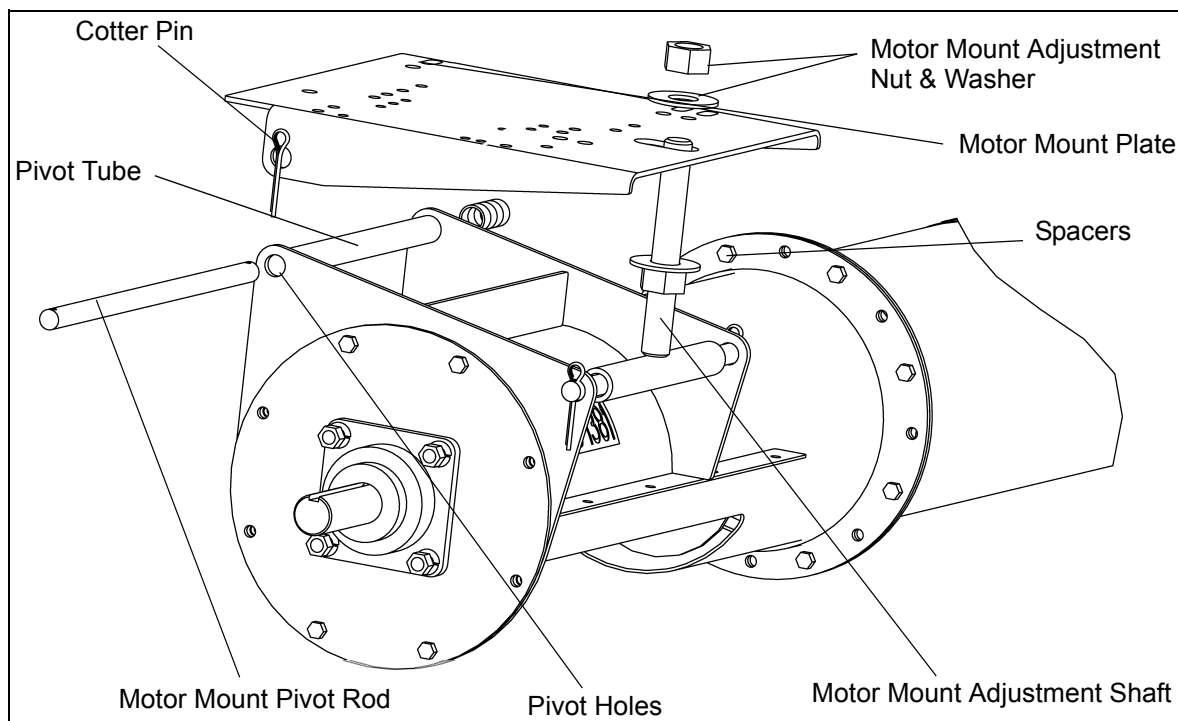

Figure 4O
1. Secure one (1) of the motor mount adjustment nuts and one (1) the motor mount adjustment washers approximately 3/4 of the way down the motor mount adjuster's threaded shaft.
2. Once the nut and washer is secure, slip the Motor Mount Plate over the adjuster and align the pivot holes with the pivot tube (See Figure 4O).